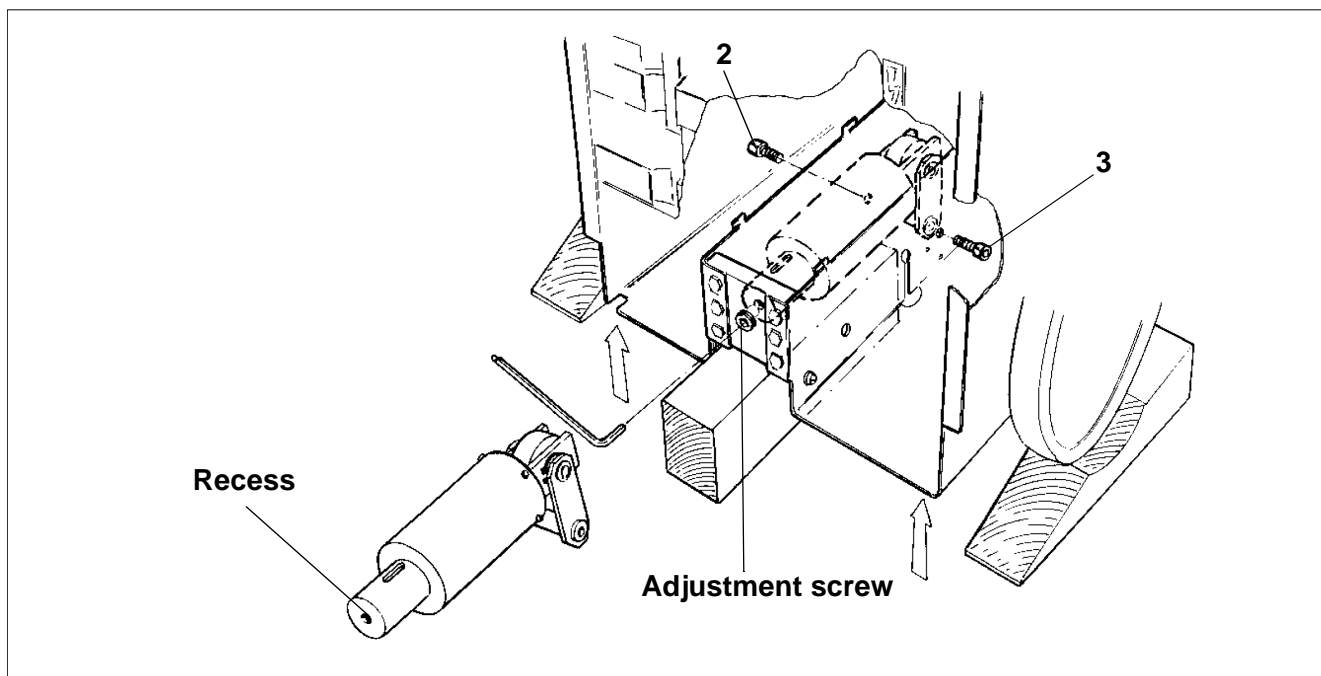

Fig. 12
- Loosen the adjustment screw so that the spring pack is loosened and the nearest part of the pack is lowered (Fig. 12).